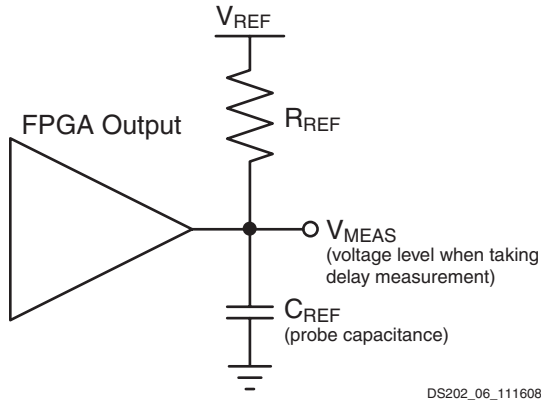
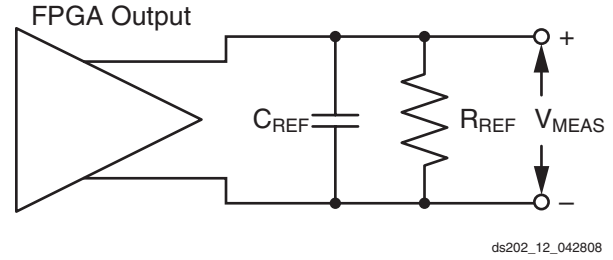

Figure 11: Single Ended Test Setup
Figure 12: Differential Test Setup
5. This is an input voltage reference that bears no relation to the V_{REF} / V_{MEAS} parameters found in IBIS models and/or noted in Figure 11.
Output delays are measured using a Tektronix P6245 TDS500/600 probe (< 1 pF) across approximately 4" of FR4 microstrip trace. Standard termination was used for all testing. The propagation delay of the 4" trace is characterized separately and subtracted from the final measurement, and is therefore not included in the generalized test setups shown in Figure 11 and Figure 12.